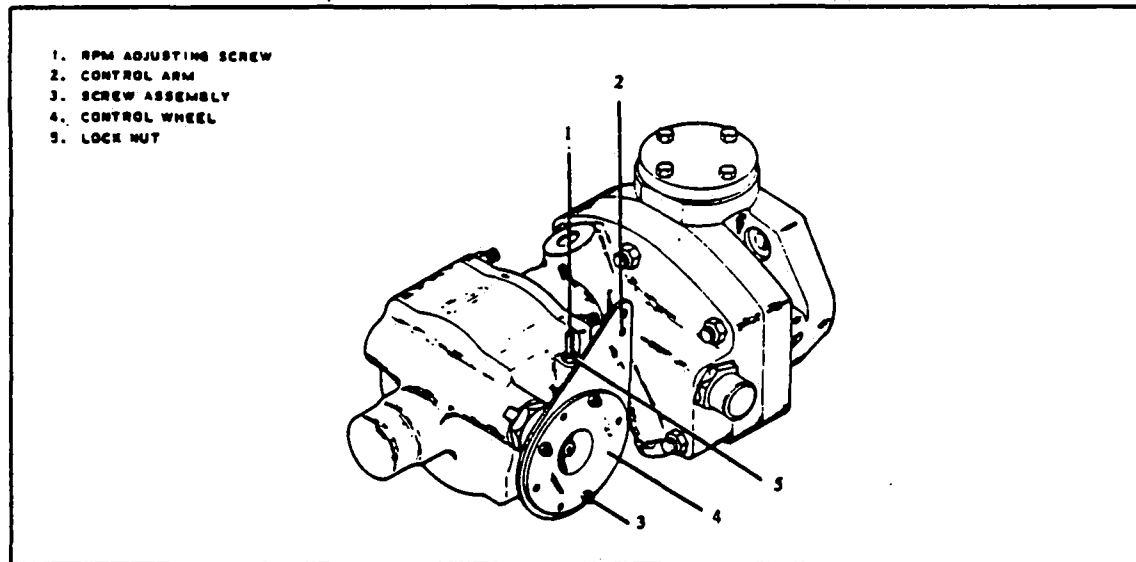

Figure 8A-4. Propeller Governor
**8A-17. ADJUSTMENT OF PROPELLER GOVERNOR. (Refer to Figure 8A-4.)**
b. To check high RPM, low pitch setting, move the propeller control all the way forward. At this position the governor speed control arm (2) should be against the high RPM fine adjustment screw (1). With the throttle full forward, observe engine RPM which should be 2700 RPM with high RPM properly adjusted.
2. Adjust governor by means of the fine adjustment screw for 2700 RPM. Loosen the screw locknut (5) and turn the screw in a clockwise direction to decrease engine speed or in a counterclockwise direction to increase engine speed.